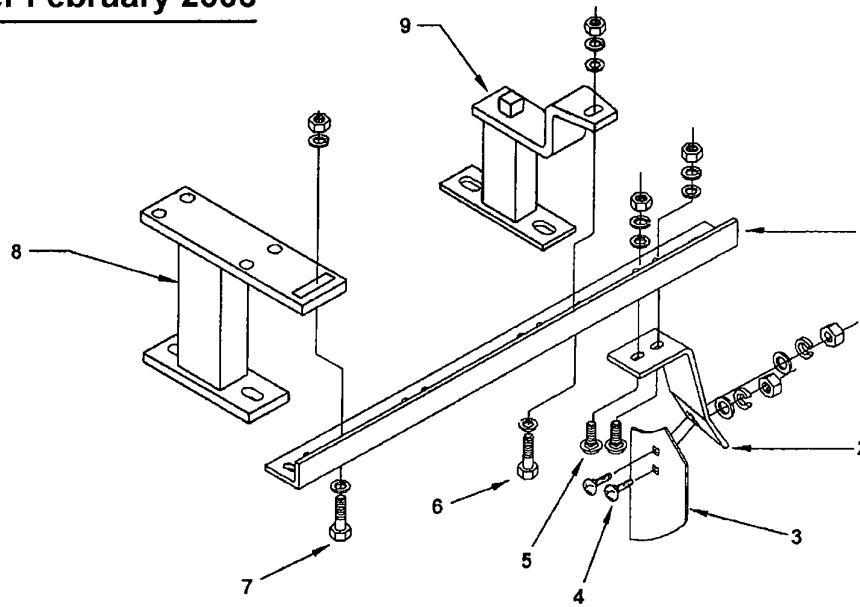

FIGURE 9 SCRAPER COMPONENTS (Rear Assy Shown)
Note: If increasing blade size from 24" to 26", you must order shims (Item 17A, Fig 9) and long bolts (item 21 or 24, Fig 9).